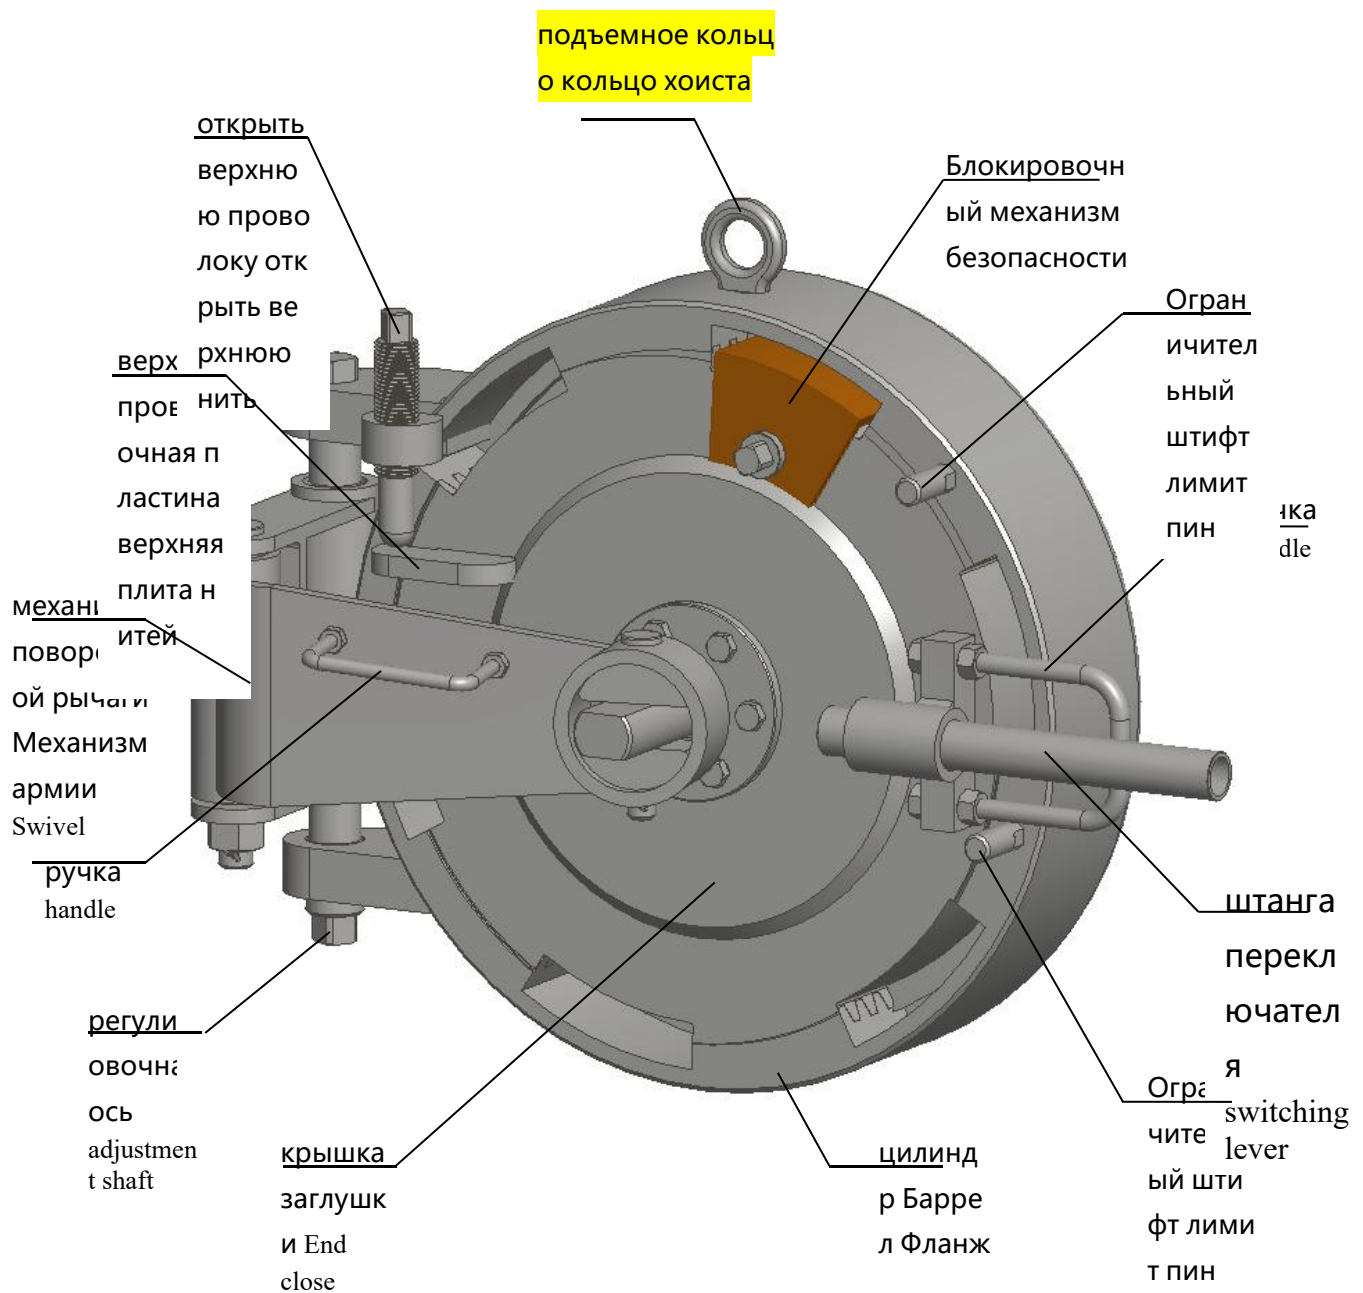

Рисунок 1 (picture 1)
2) Remove the adjusting shaft as show in Fig. 1. The removed parts should be labeled and properly placed;